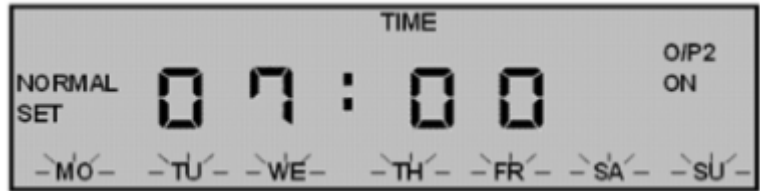

Figure 7 – Days of the week (Loud)
- 2.6 Increase the minutes by pressing the SET button, once the correct minutes are displayed press the MODE button. This causes Monday - Sunday to flash (Figure 7).